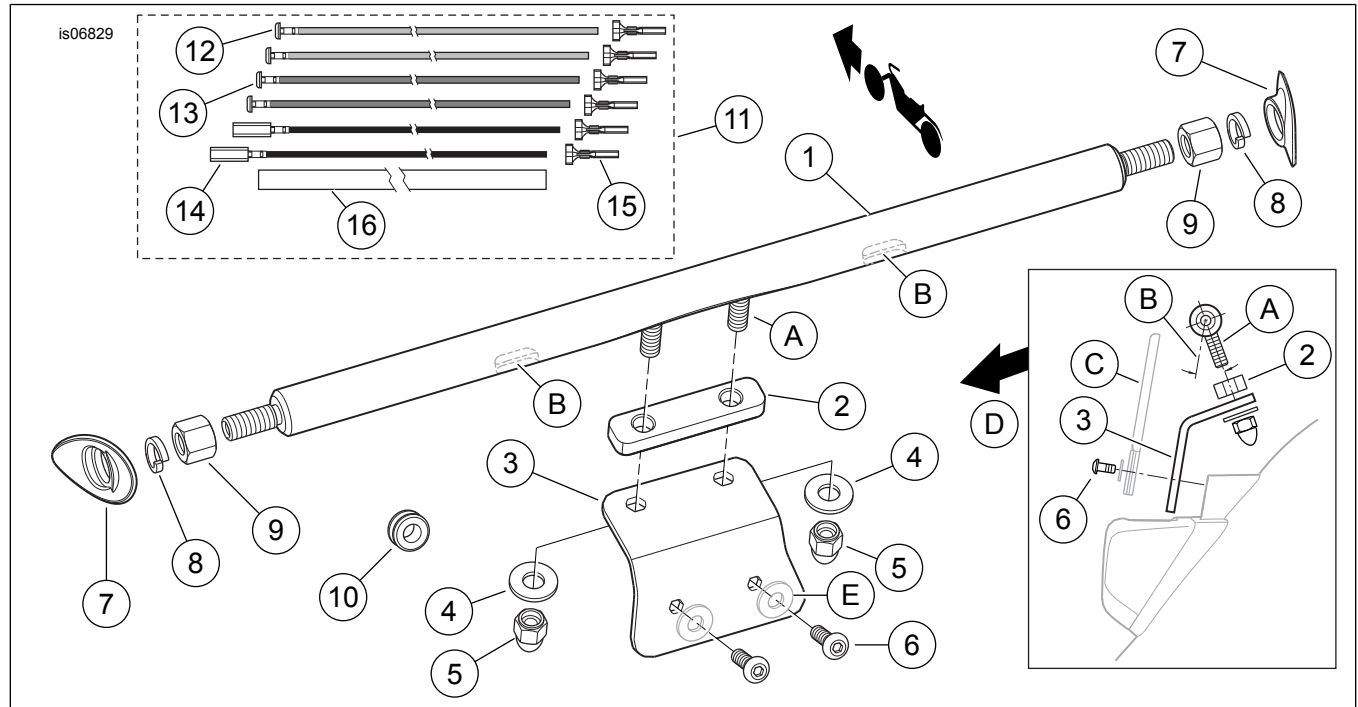

Figure 3. Service Parts, XL1200C Turn Signal Relocation Kit
See Figure 3. When assembling the light bar (1) to the spacer (2) and relocation mount (3), the correct orientation is with the wire-exit holes (B) angled **toward** the downward bend as shown in View (D), **NOT** away from it.
1. Remove the protective caps from the two threaded studs (A) on the light bar assembly.
3. Install washers (4) and acorn nuts (5) onto the studs, and tighten to 2.3–2.8 N·m (20–25 **in-lbs**).
1. See Figure 3. Loosely install a chrome jam nut (9) onto one of the threaded studs on the ends of the light bar. Place a lockwasher (8) onto the stud, against the jam nut. Place a chrome recess cover (7), in the orientation shown, onto the stud.
1. See Figure 3. Bring the light bar assembly to the tail lamp area, with the relocation mount (3) oriented toward the rear and down as shown in View (D).
3. See Figure 3. Get four socket terminals (15) from the kit, and the two-way socket housings removed from the original wires.